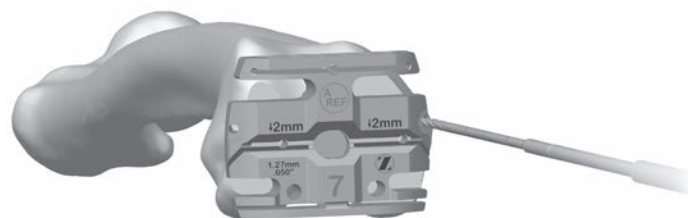

Fig. 46
- After final placement of the desired Anterior Referencing 4-in-1 Cut Guide, insert 3.2mm trocar-tipped pins or 3.2mm Headed Screws (see Screw Information section for examples) through the oblique holes in the Anterior Referencing 4-in-1 Cut Guide (Fig. 46).